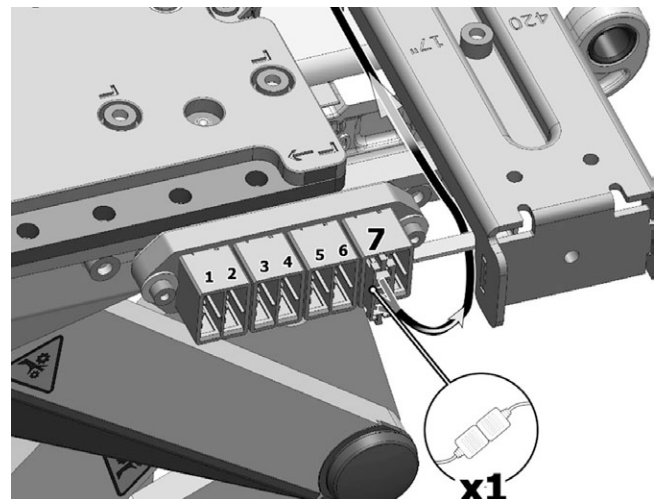

Figure 177. The ICS bus cable is connected to the seventh position of the connector block.
5. Disconnect the cable (1821531) that connects the ISC Master Module to the contact block at the seat frame. See fig. 177. Release the cable from its cable brackets on the seat frame. Make note of how the cables are assembled on the seat frame with consideration to subsequent assembling. See *Rnet and ICS bus cable mounting*, Page 83.